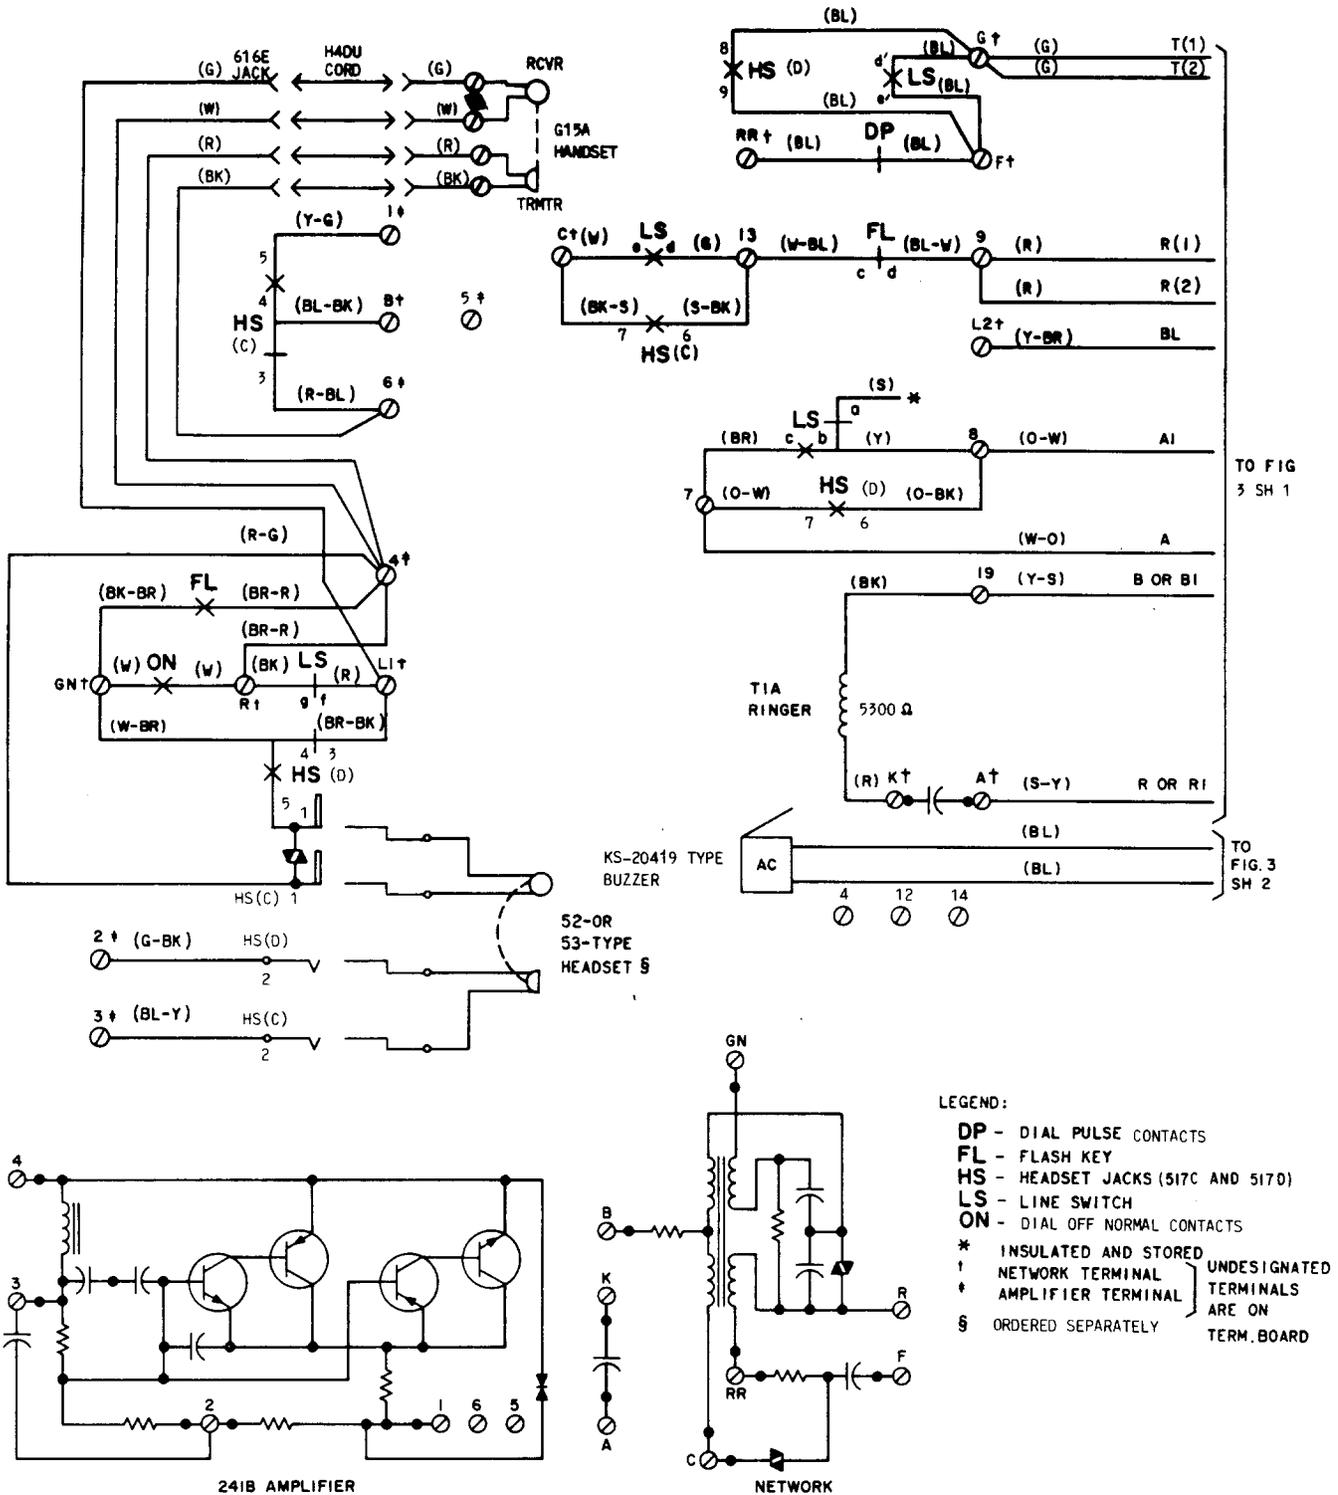

Fig. 2—636CAMS and 637DAMS Telephone Set, Connections
1.04 The 636CAMS1 and 637DAMS1 sets (Fig. 2) are furnished equipped with a new line switch which breaks both the tip and ring side of the line instead of the ring side only.